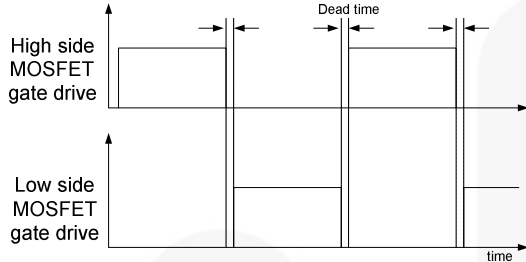

Figure 15. MOSFETs Gate Drive Signal
1. Basic Operation: FSFR-US series is designed to drive high-side and low-side MOSFETs complementarily with 50% duty cycle. A fixed dead time of 350ns is introduced between consecutive transitions, as shown in Figure 15.